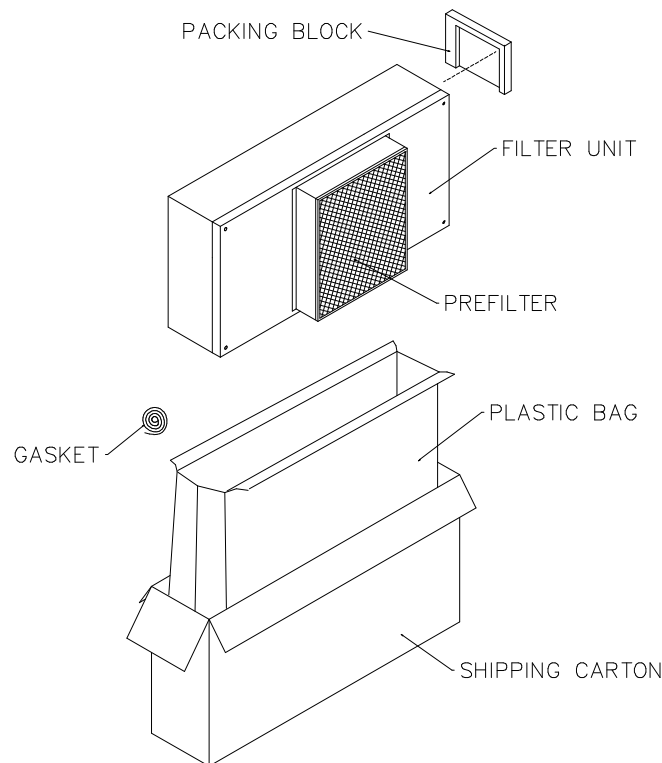

Figure 1
- Step 1.** Carefully remove the unit from the shipping carton and inspect for any damage that may have occurred during transportation.(see Figure 1)